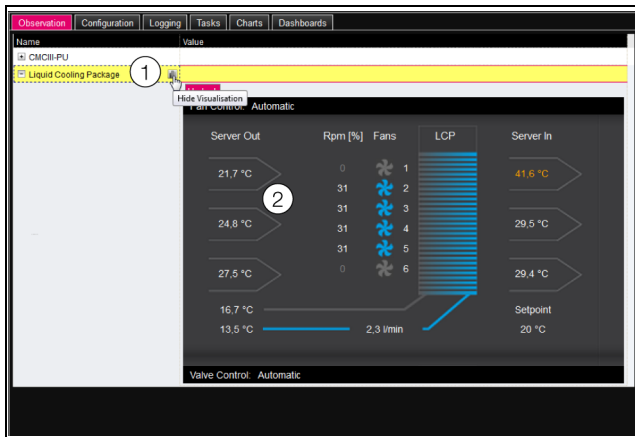

Fig. 116: Graphical representation
The display switches to the graphical representation (fig. 116) and all statuses and speeds of the fans and temperature values for the server inlet and outlet temperature as well as the control modes for the fan and water control can be seen at a glance and amended by clicking the graphic (fig. 116, item 2).
After selecting the "Liquid Cooling Package", if graphical representation (fig. 116) is preselected, you can switch to the tree view as follows:
- Click on the greyed "Graphics" symbol after the "Liquid Cooling Package" entry (fig. 116, item 1).